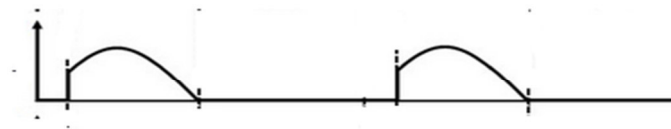

Figure 3.5: Output waveform for $\alpha < 90^\circ$
- Now adjust the potentiometer by observing the output waveform, there should be a waveform at the output (not a straight line), and set $\alpha < 90^\circ$ as shown in the Figure 3.5.